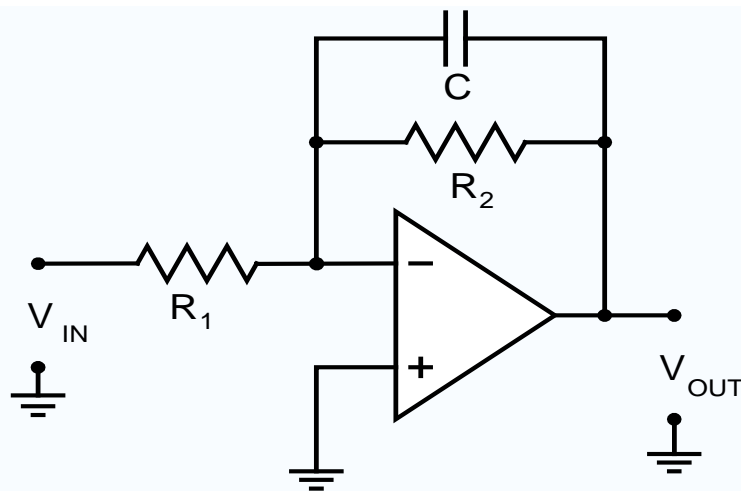

Fig. 12.5. An active RC low-pass filter.
In analog signal processing, such as processing audio signals, a low-pass filter is a circuit whose output amplitude can vary depending on the frequency of the input. A circuit that behaves like a low-pass filter is given in Fig. 12.5.
3) Wire the circuit shown in Fig. 12.5. Use $+V_{cc} = +9$ volts and $-V_{cc} = -9$ volts. Use $R_1 = R_2 = R_L = 10K$ Ohms, and $C = 0.1$ uF. Connect the signal generator to channel 1 of the oscilloscope, and adjust the amplitude and frequency of a sinusoidal signal to 1 volt and 100 Hz, respectively. Also, connect the signal generator output to the circuit input, and connect channel 2 of the oscilloscope to the circuit output to see the voltage across R_L .